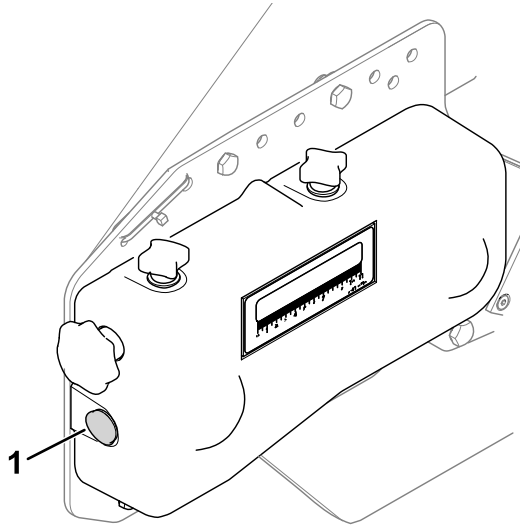

Figure 19
1. Remove the fill plug (Figure 19) from the side of the gearbox.